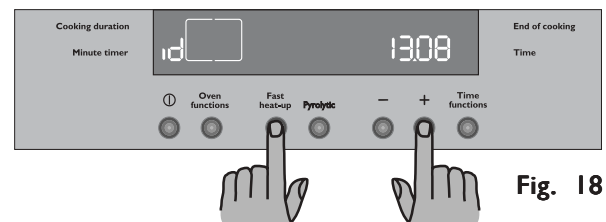

Fig. 18
- Press Fast heat-up button and “+” for approximately 2 seconds (Fig. 18). An acoustic alarm will sound for a short time.
- Press button ① and the “id” indication will appear in the display.